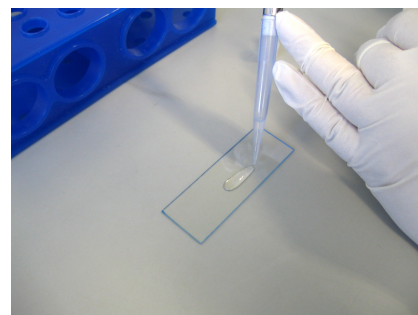

Fig. 1 Using a P1000 pipette tip streak cold CyGEL™ along the slide for the length of a coverslip
4. Transfer 250ul of the CyGEL™/cell suspension into a cold P1000 pipette tip. Quickly dispense onto a clean microscope slide by streaking along the surface for a length similar to the coverslip to be applied (see fig. 1). Repeat the process for the remaining CyGEL™/cell suspension – giving two microscope slide preparations.